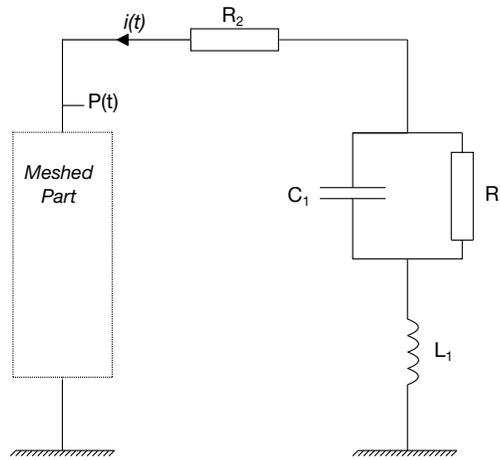
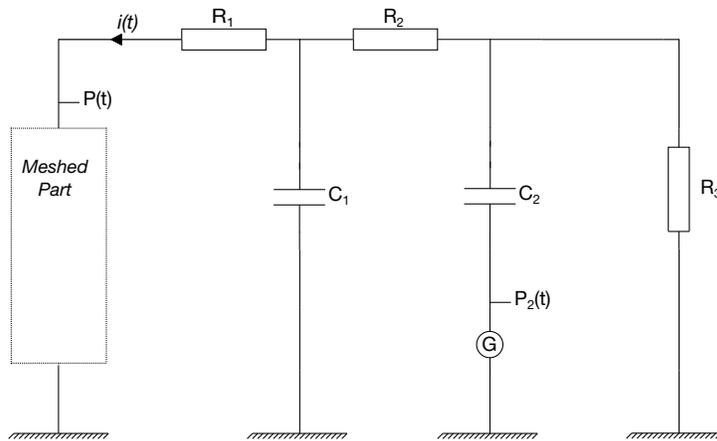

Figure 5-1. Windkessel Circuit
Figure 5-2. CV Circuit
1. Figure 5-1 shows a Windkessel circuit and Figure 5-2 a CV circuit.